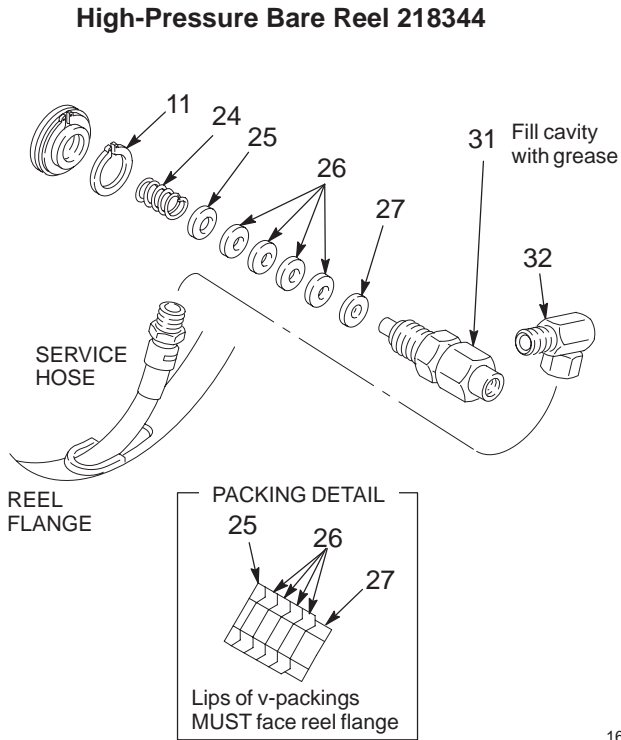
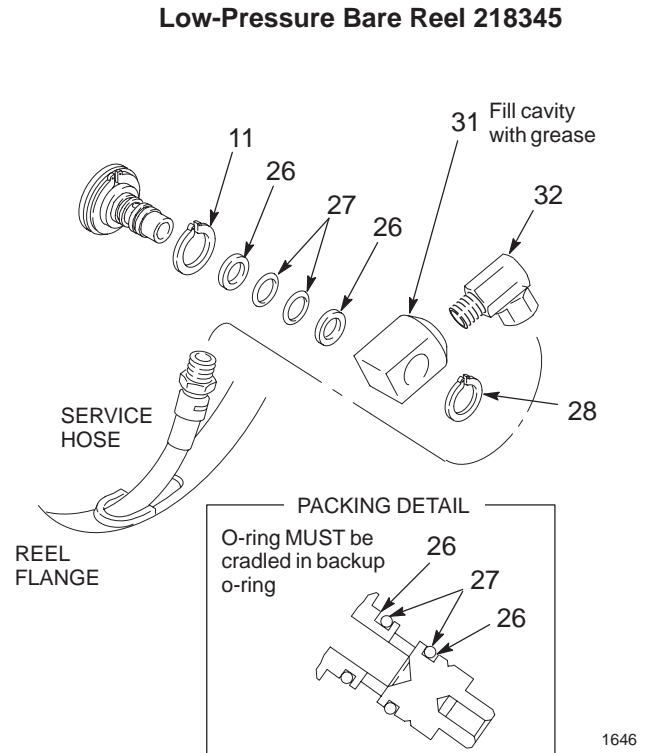

Fig. 8
Fig. 9
Disassemble the parts as shown in Fig. 8 and Fig. 9 (depending on your hose reel model). Clean the parts and inspect them for wear or damage.
Grease the new parts, and fill the cavity of the swivel assembly (31) with high-quality grease. Install the parts as shown in Fig. 8 or Fig. 9 (depending on your hose reel model).
For Bare Hose Reel 218344, remove the swivel assembly (31) and the retaining ring (11). See Fig. 8.
For Bare Hose Reel 218345 and 224880, remove the retaining ring (28), swivel (31) and retaining ring (11). See Fig. 9.